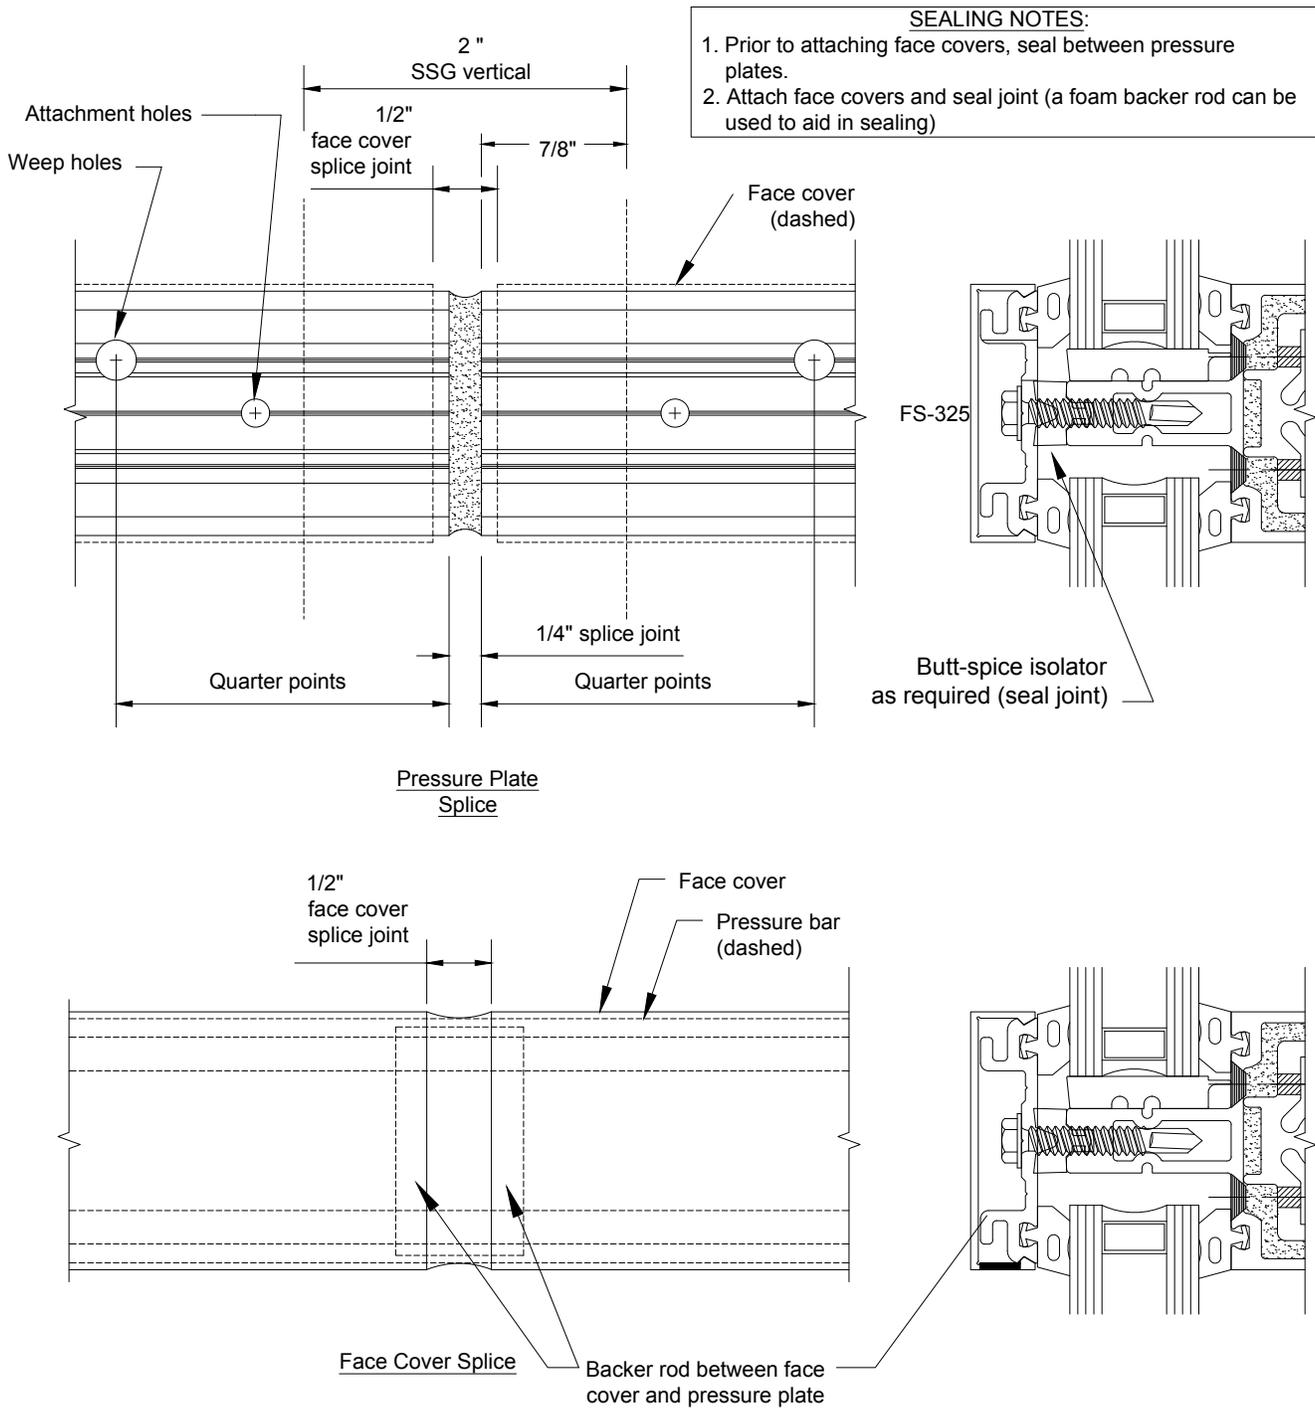

Figure 21
- 3.11 After removing horizontal temporary retainers, center horizontal pressure plates in opening, leaving 1/8" gap on each end. Make sure that weep holes are on the top side of the pressure plate. **NOTE:** **Horizontal pressure plates and face covers run continuous over SSG mullions, not to exceed 3 lites in length. See FIGURE 21, page 24 for splicing and sealing instructions.**